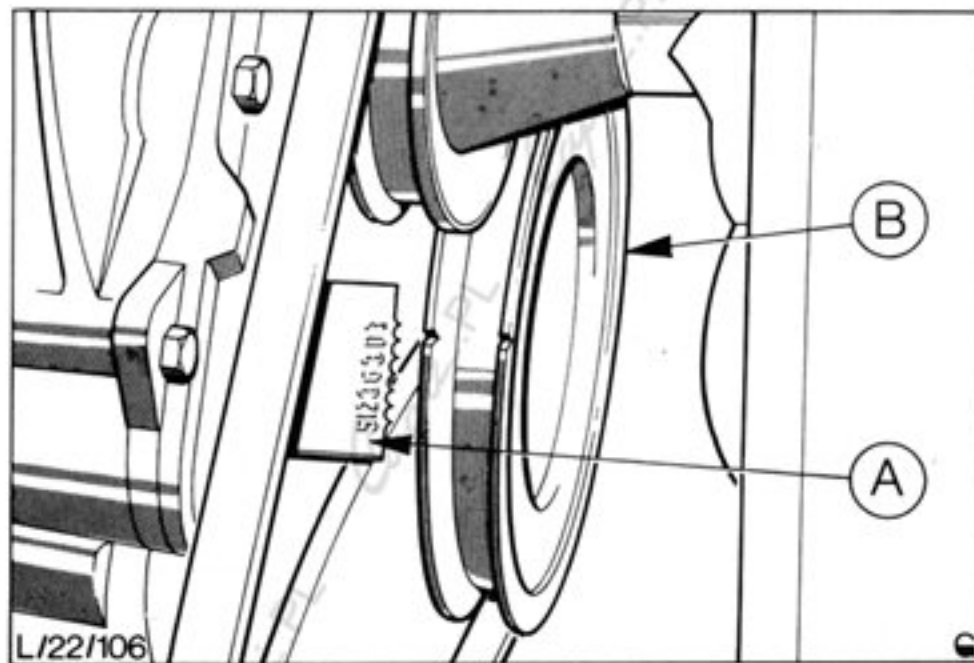

Fig.23. Engine set on TDC.
6. Check ignition timing, and adjust if necessary, as described below, Fig.23.